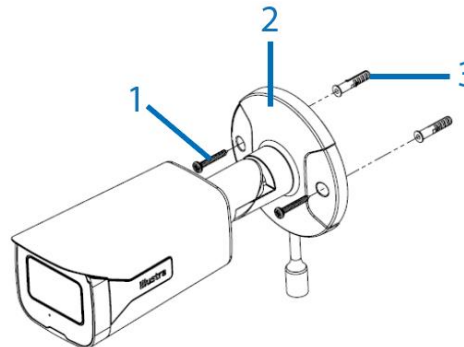

Figure 2
6. Hold the camera wall mount (2) (Figure 2) up to the surface and insert the cable through the hole on the surface or through the cable side entry hole on the camera base.
7. Align the two holes on the camera mount with the two holes on the wall and insert the two ST 4x30mm screws (1) (Figure 2) into the two holes and securely attach the camera to the wall
4. Securely place two Fischer 4x30mm screw anchors (3) (Figure 2) into the two 5.5 mm holes on the surface.